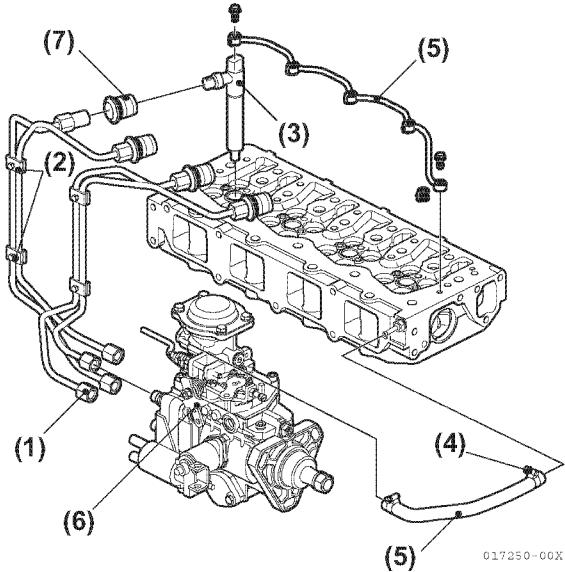

Figure 6-9
4. Remove return fuel line from fuel injection nozzle (Figure 6-9, (4)).
5. Remove the bolt retaining the fuel injection nozzle. Remove fuel injection nozzle (Figure 6-9, (3)). See Remove the fuel injection line (Figure 5-32) thru (Figure 5-34): on page 5-40.